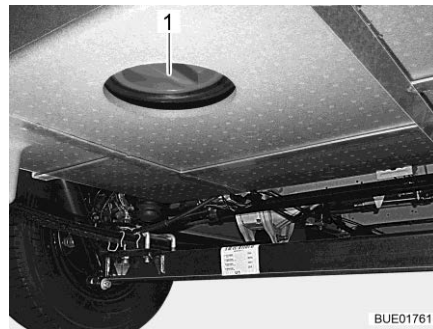

Fig. 213 Cleaning opening (waste water tank)
- Open the cleaning opening (Fig. 213,1) on the waste water tank and the drain cock.